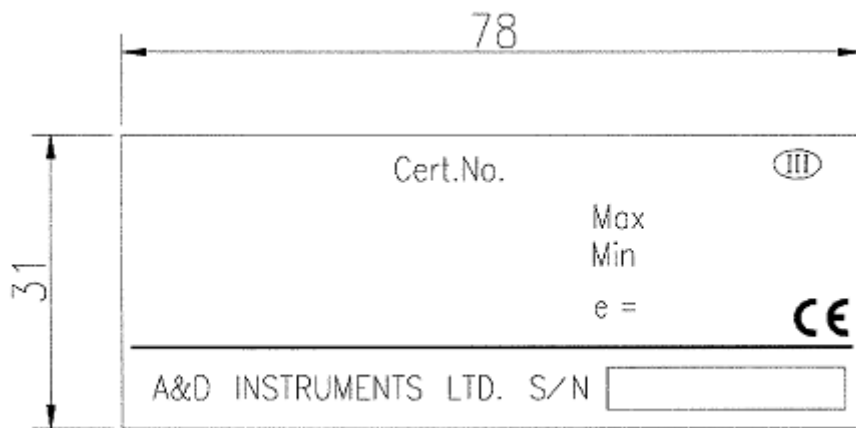

Figure 4 Data plate
The data plate (see Figure 4), green M sticker and the verification mark are mounted on the top of the instrument.
- Figure 4 Data plate